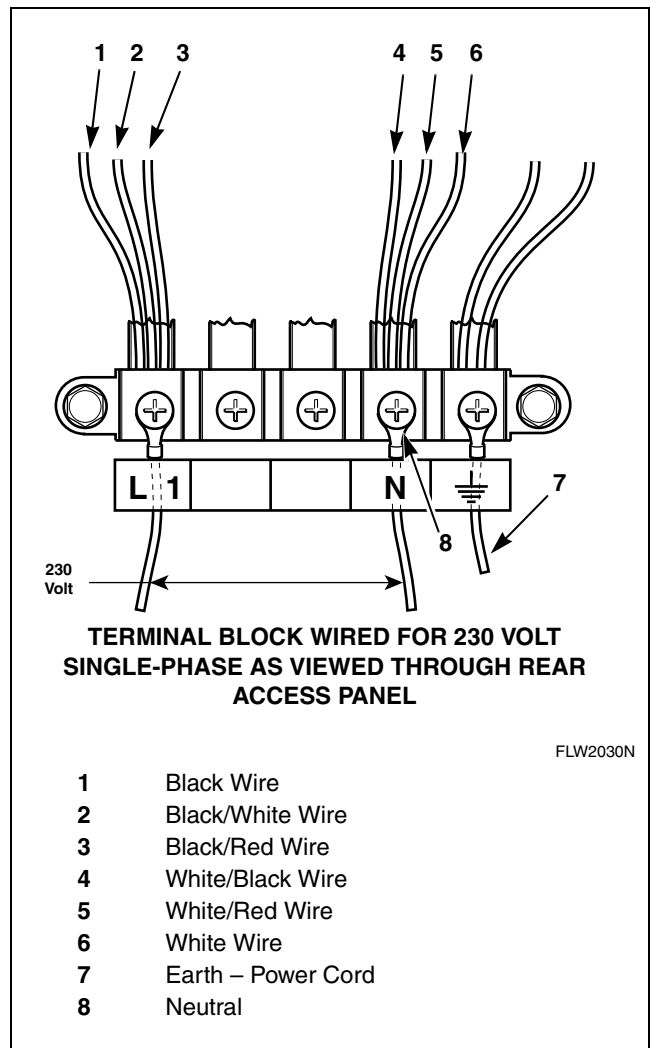

Figure 18
5. Attach power cord wires as shown in *Figure 18*.